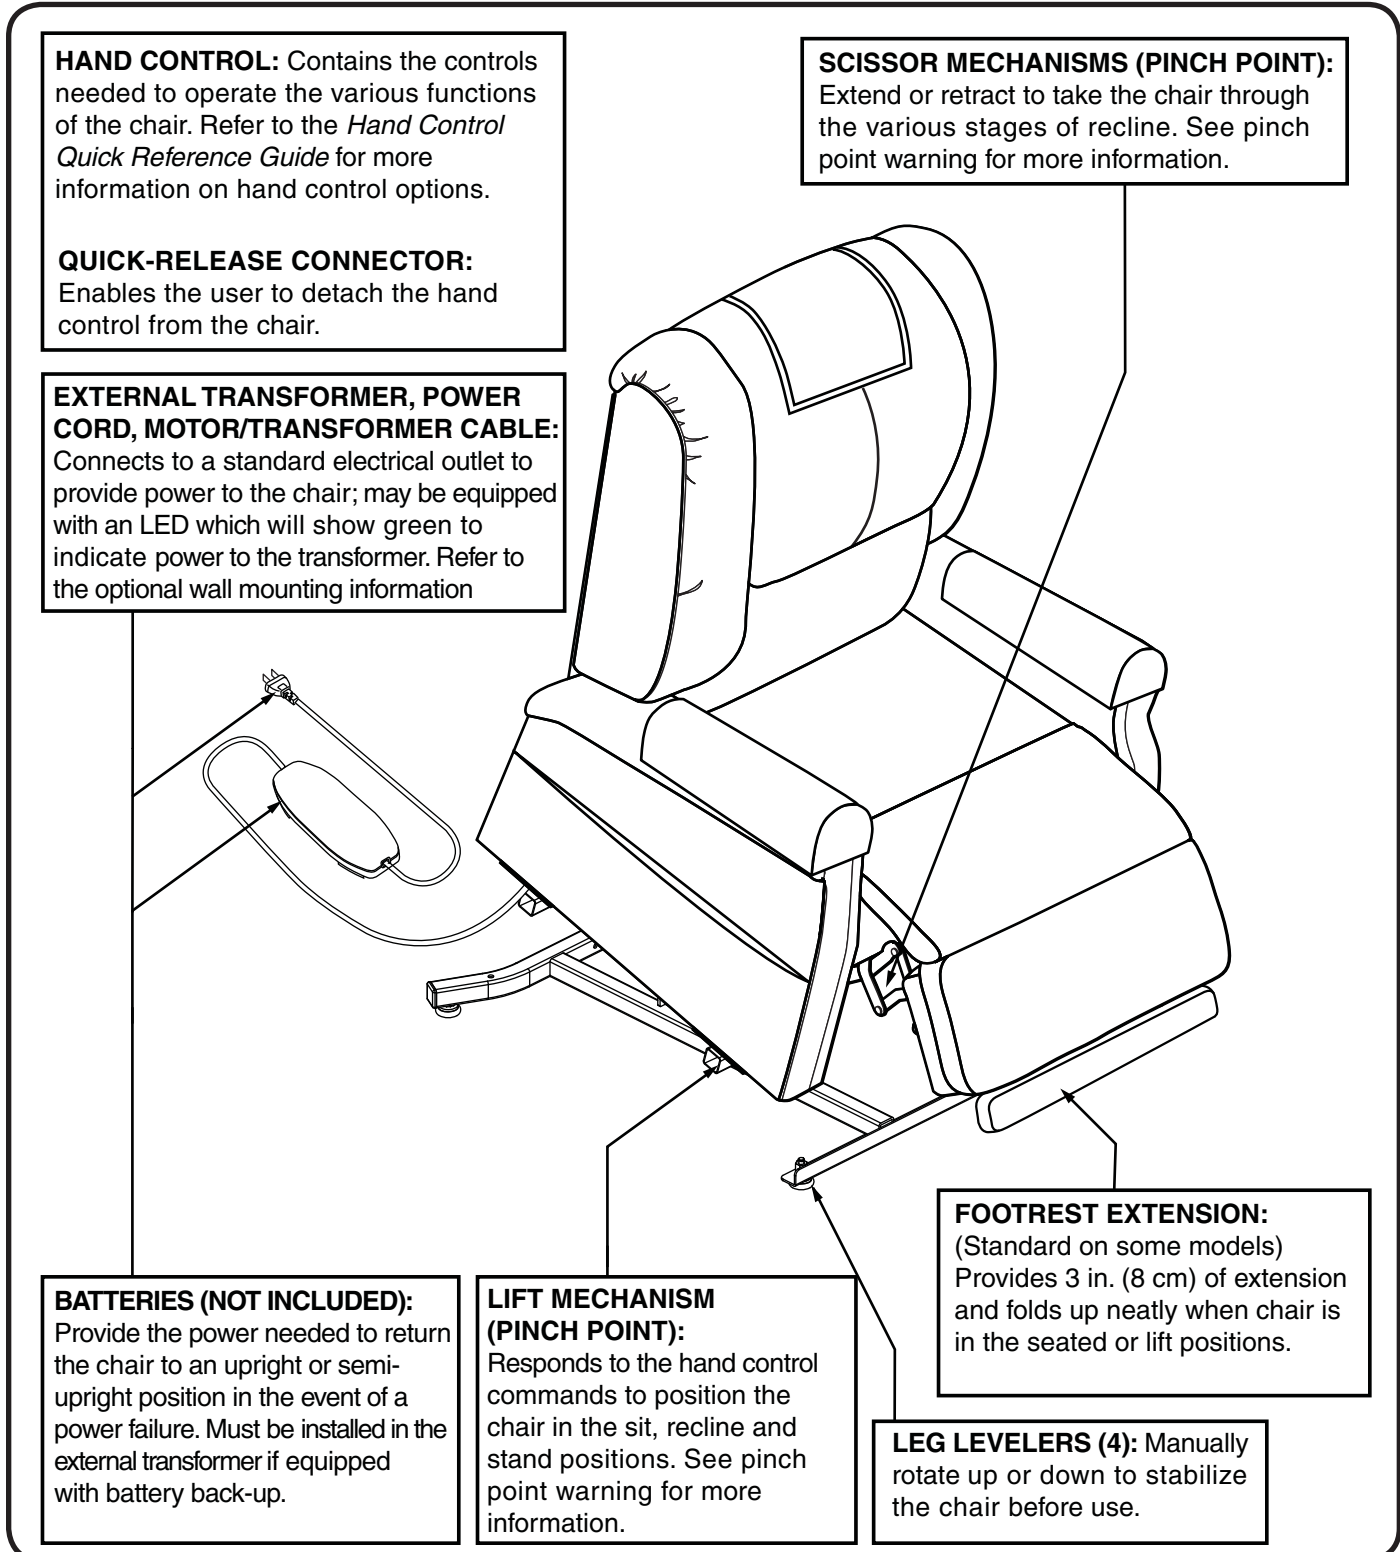

Figure 3.1 Chair Main Components
The scissor and lift mechanisms are labeled as pinch/crush point hazards on your chair. Keep clear of these areas and make sure the path of motion is unobstructed. See **figure 3.1** for pinch/crush point locations.
Chairs are equipped with several frame and electrical components. Typically, frame (or body) components include a removable back, chaise pad, seat, footrest, leg levelers, a lift frame, and scissor mechanisms. The electrical components include the external transformer with connection cables, hand control, motor and batteries† (not included). Refer to **figure 3.1** and note that the illustrations and options listed may not reflect the type of chair that you own.
2. Adjust the leg levelers to stabilize the chair (**Fig. 3.1**).